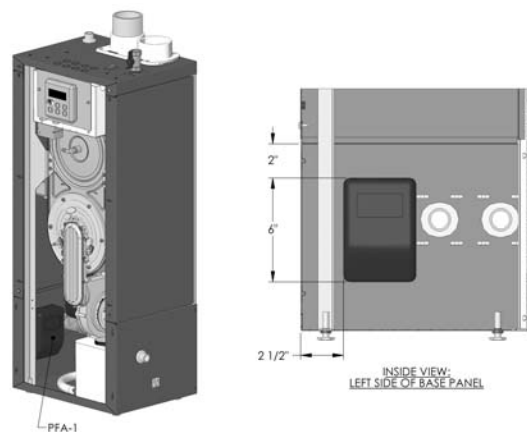

Figure 2
2. Figure 2 shows the suggested mounting location for the PFA-1 Interface Adapter on the PF-210 and PF-399 boilers.